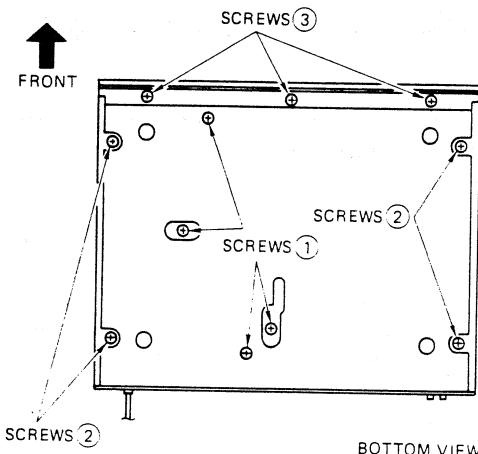

Fig. 1
- 1) Remove 4 red screws ① from the bottom of the set. (Fig. 1)
- 1) Remove 4 screws ② from the bottom of the set. (Fig. 1)